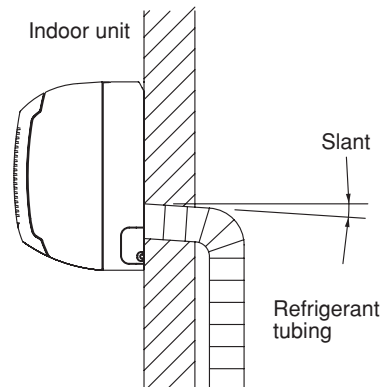

Fig. 3-32
- a) The drain hose should be slanted downward to the outside. (Fig. 3-32)